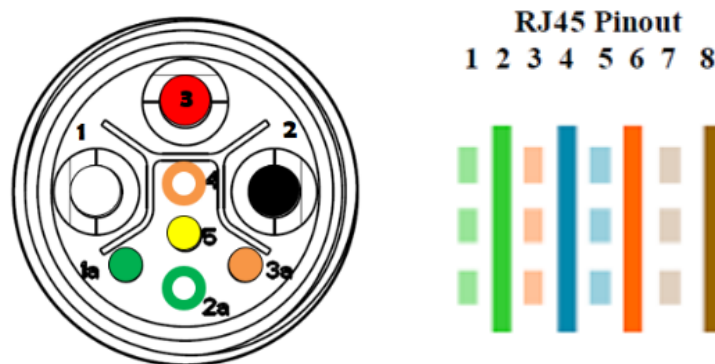

Figure 5. Power cable: RJ45 connection details
2. Connect the RJ45 wiring block to the power cable using a straight-through connection. Reference Figure 5 and Table 5 on page 11 for the power and RJ45 connector pinouts.